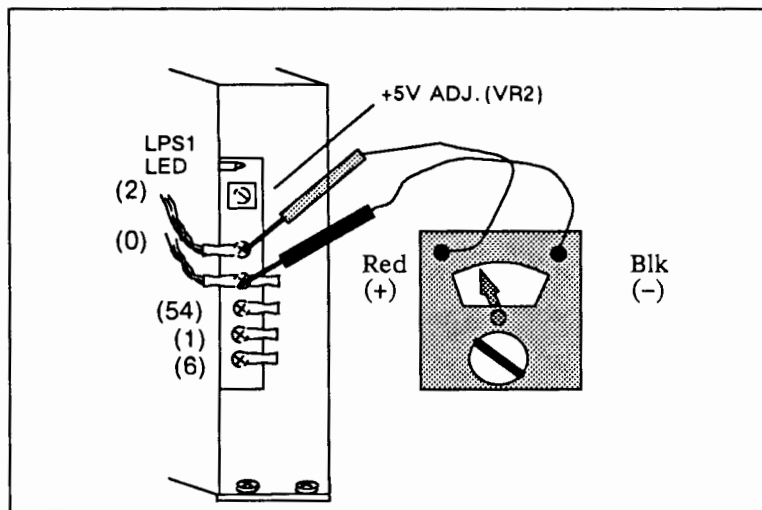

Figure 6-10. +5 V Power Supply Adjustment
- a. Turn the plotter line switch to OFF (O).
- d. Connect the voltmeter probes to the two screw terminals as shown in Figure 6-10.